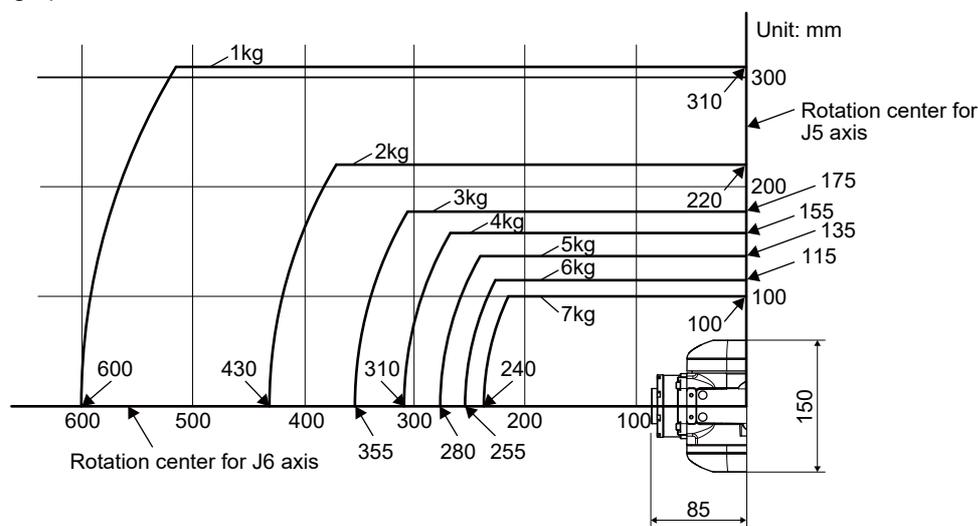

Fig.2-1: Positions of the centers of gravity for loads with relatively small volume (RV-8CRL)
- (2) Fig. 2-1 shows the distribution dimensions for the positions of the centers of gravity for loads with relatively small volume. Refer to the figure for designing tooling.
- (3) Even if the load is force, not the mass, design the tooling so that moment does not exceed the allowable moment. Refer to Page 9, "2.1 Standard specifications" for details of allowable moment value.
- (4) Prevent the total mass of the load mounted on the mechanical interface and arm from exceeding the mass capacity.